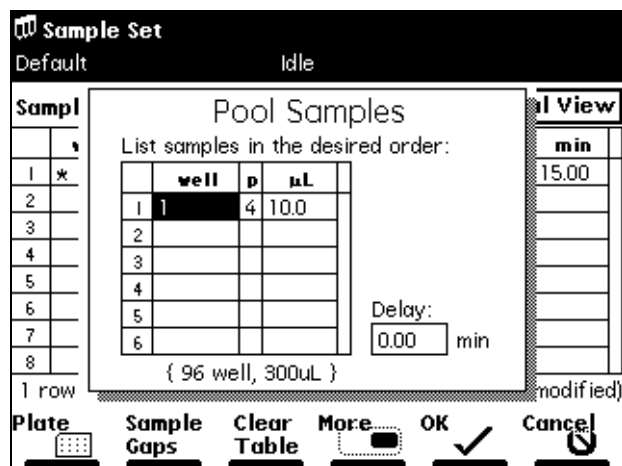

Figure 5-33 Pool Samples Dialog Box
3. Press **More**, then press the **Row Details** screen key to display the Pool Samples dialog box (Figure 5-33).